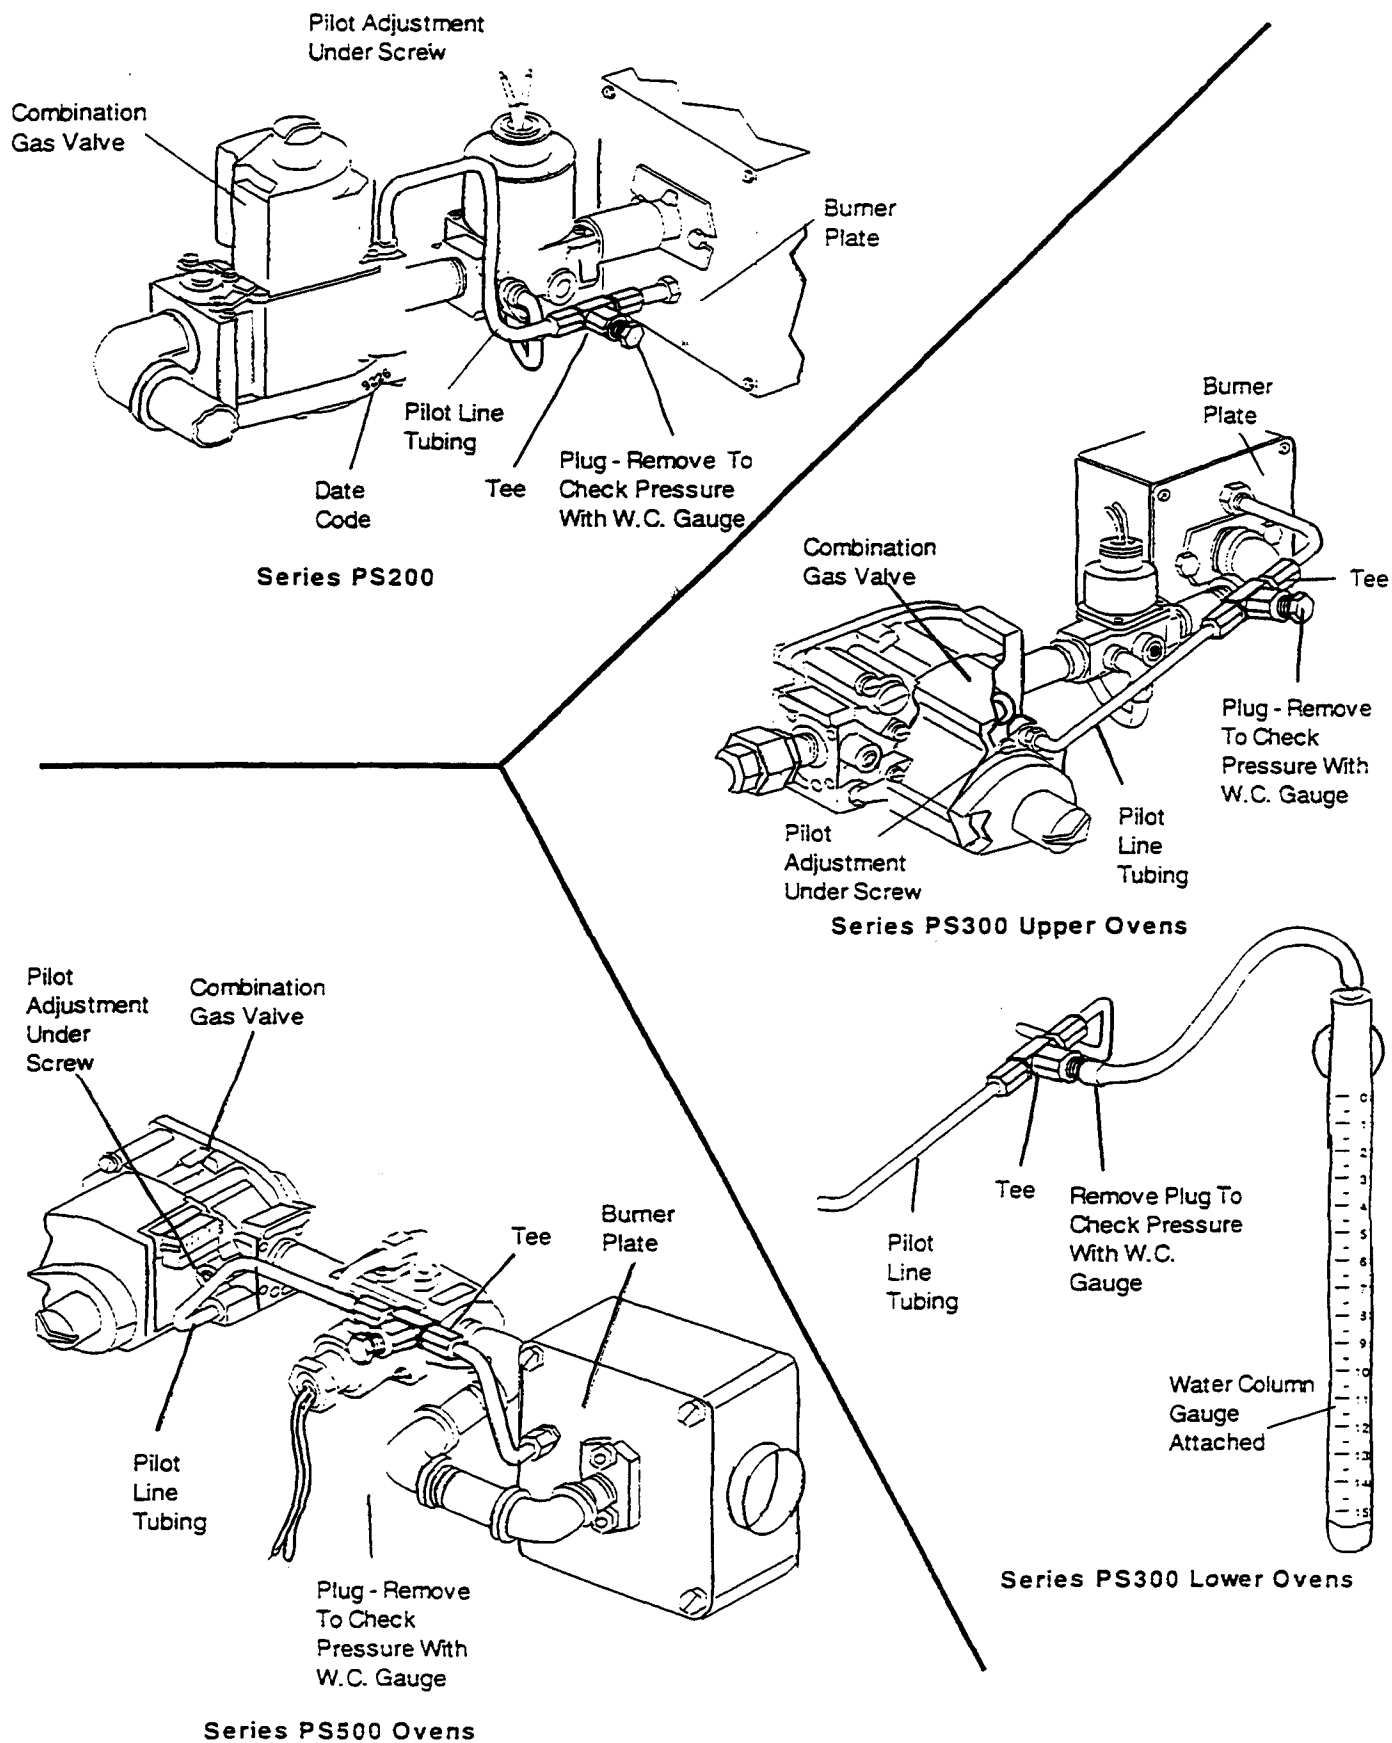

Figure 1
1. Remove pilot line tubing from between the combination gas valve and the burner plate. Refer to Figure 1.
2. Cut the tubing for installation of the tee as shown in Figure 1. Cut a 3/4" piece out of the pilot line tubing to insert the tee as shown in Figure 1. **NOTE:** *The tubing will insert 1/4" into the tee at both ends.*
1. Unscrew the plug from the pilot tee and install a water column gauge. To avoid calibration problems **do not** use a dial face mechanical W.C. gauge. Refer to Figure 1, PS300 Lower Oven for an example of water gauge connection.
3. Gain access to the pilot adjustment screw under the screw on combination gas valve as shown in Figure 1.